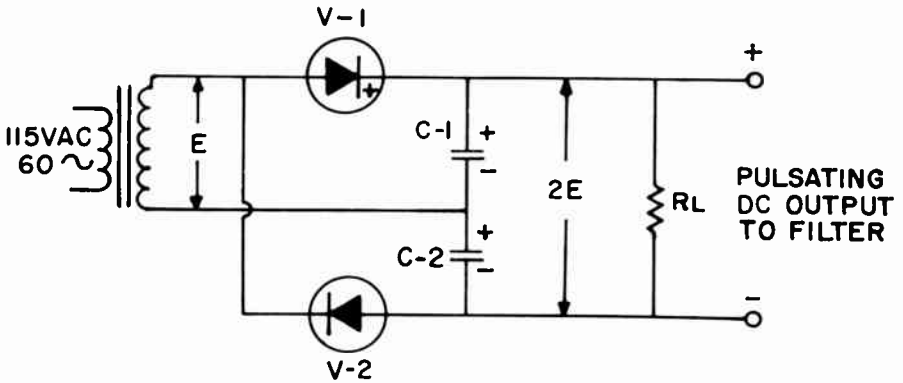

FIG. 7-15. A FULL-WAVE VOLTAGE DOUBLER POWER SUPPLY.
**THE VOLTAGE DOUBLER POWER SUPPLY.** It is sometimes necessary to have a higher DC output voltage than is possible with a simple rectifier system. A voltage doubler power supply is one that uses two capacitors in parallel with the input voltage and in series for the output voltage, with rectifiers switching between them. Such a supply is shown in Fig. 7-15.